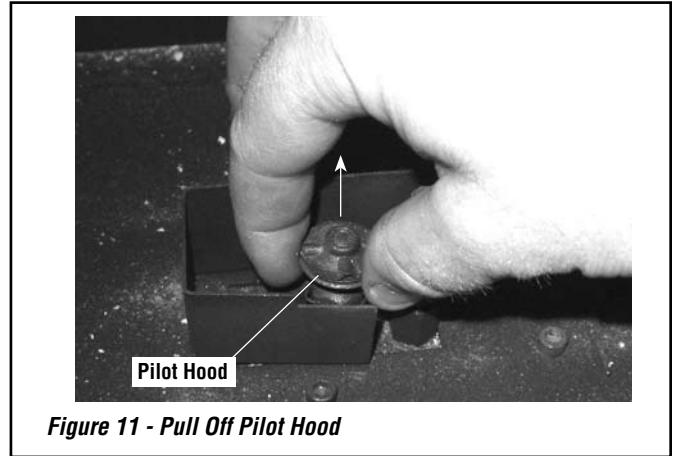
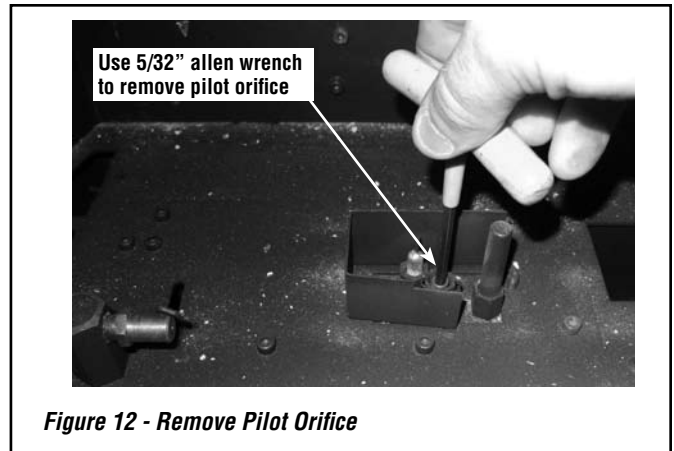
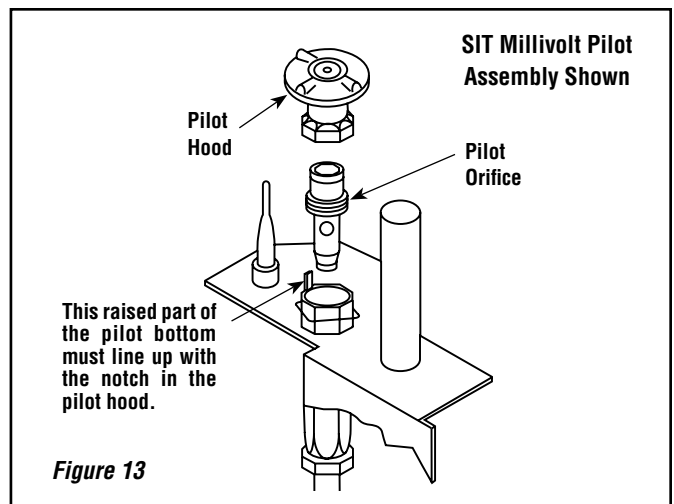

Figure 11 - Pull Off Pilot Hood
Figure 12 - Remove Pilot Orifice
Figure 13
Step 9. Firmly pull the pilot hood straight up and off to access the hexed pilot orifice (see **Figures 11 and 13**). Use a 5/32" allen head wrench to unscrew the pilot orifice and lift it out (see **Figures 12 and 13**). Replace with the new NG pilot orifice provided. Re-install the pilot hood. **Note: The raised part of the pilot bottom lines up with the notch in the pilot hood (see Figure 13).**